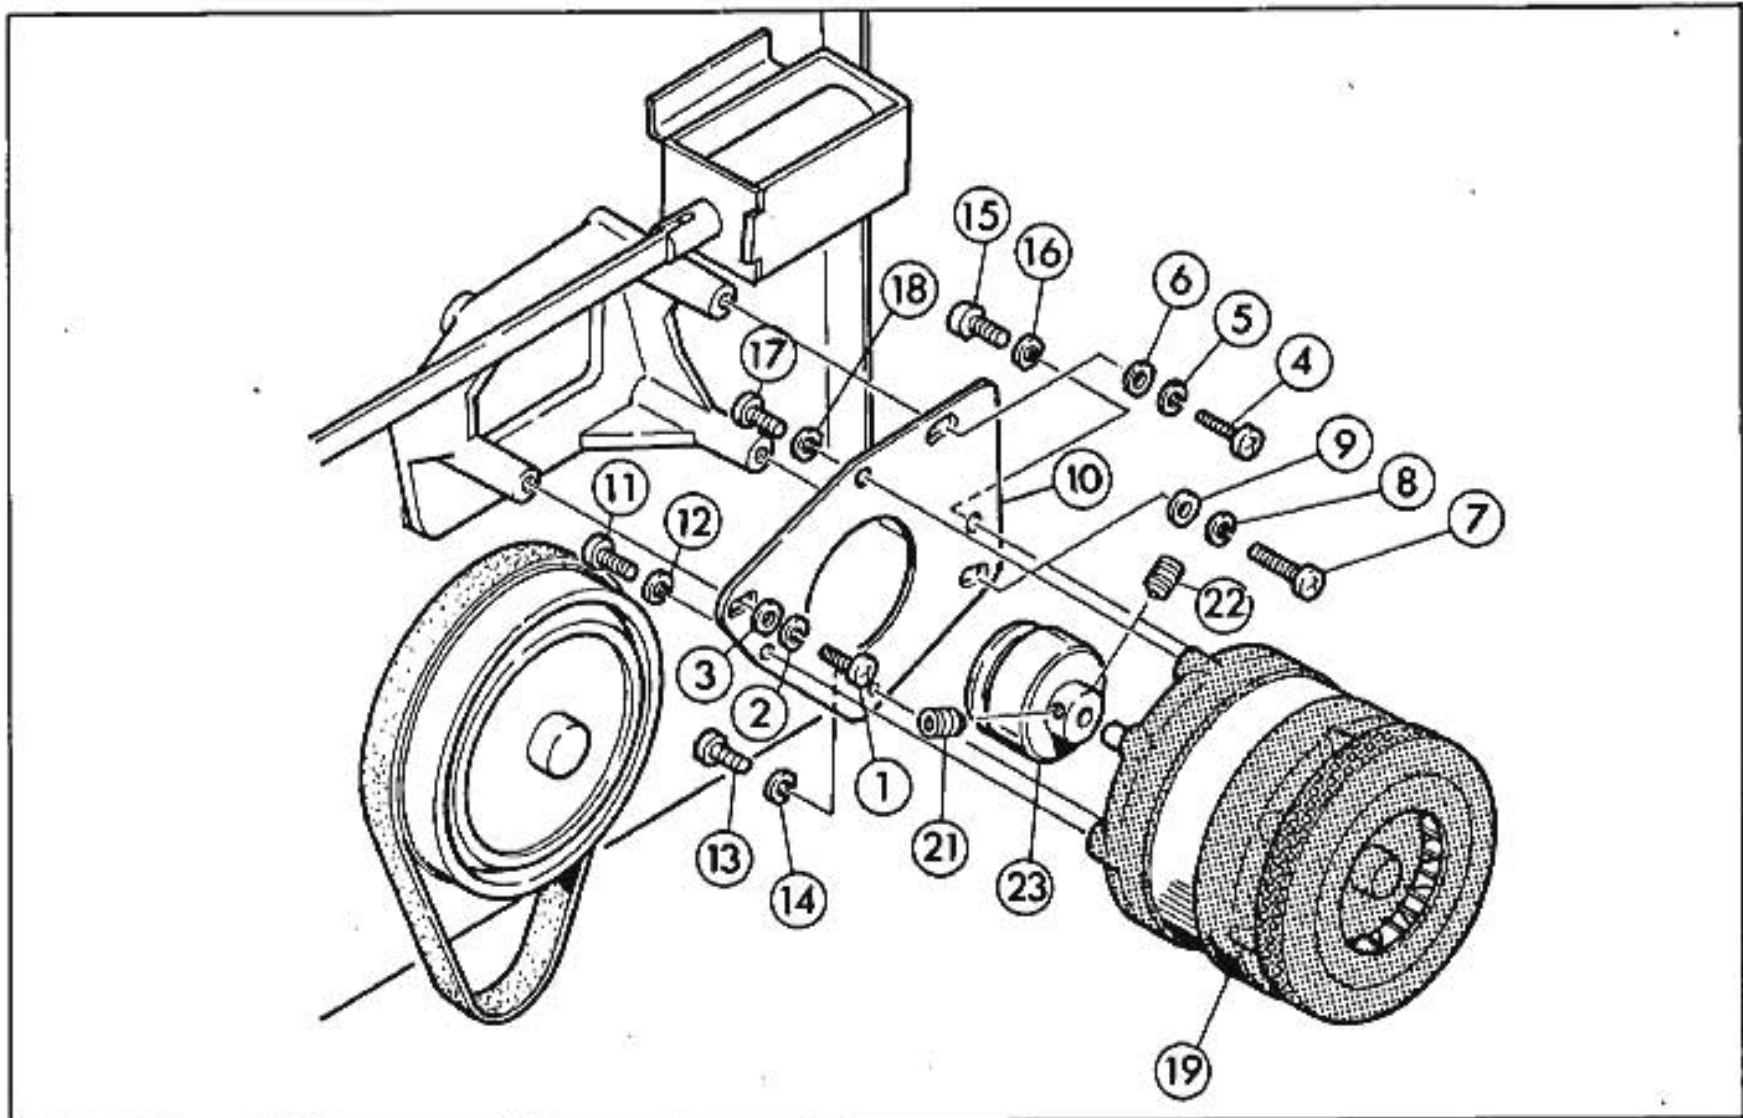

Fig. 10-4
1. Disassembly (See Fig. 10-4)
2. Assembly (See Figs. 10-4, 10-5 and 10-6)